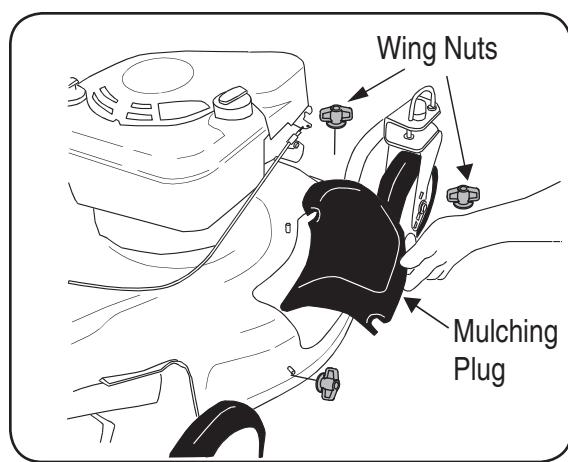
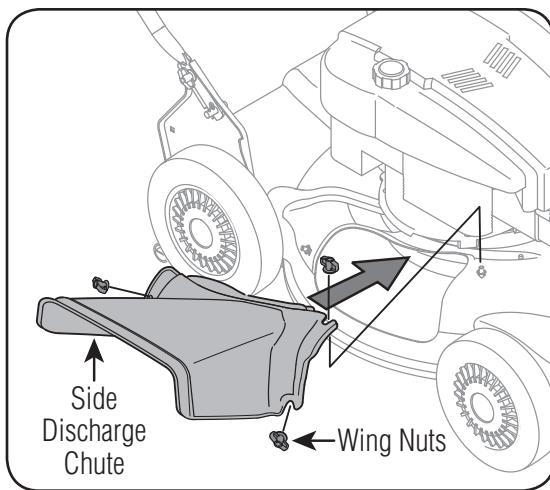

Figure 4
Figure 5
4. Insert post on cable ties into holes provided on the lower handle. Pull cable tie tight and trim excess. See Figure 4.
- a. Remove wing nuts holding mulching plug (see Figure 4) or side discharge chute (see Figure 5) in place. Then remove baffle or discharge chute.
- b. Attach discharge chute with wing nuts. See Figure 5.